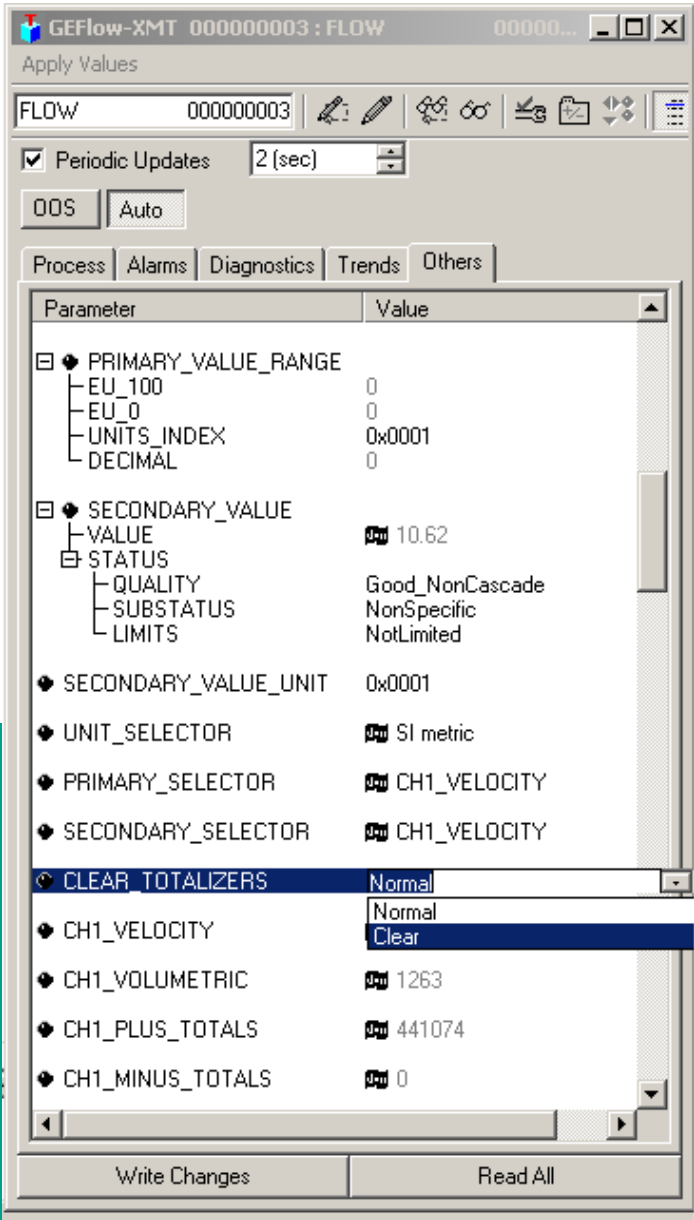

Figure 43: Clear totalizers drop down list
3. Select **clear** from the drop down list box (see figure 43).